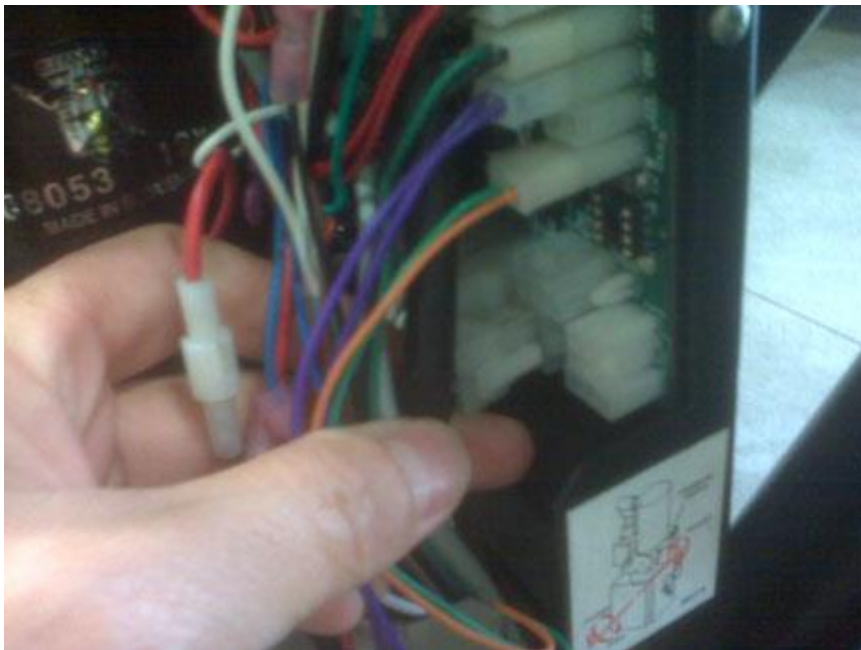

Figure 2. Unplug all PCB Terminals and Receptacles
5. Refer to **Figure 2**. Unplug all terminals and receptacles off the existing PCB assembly.